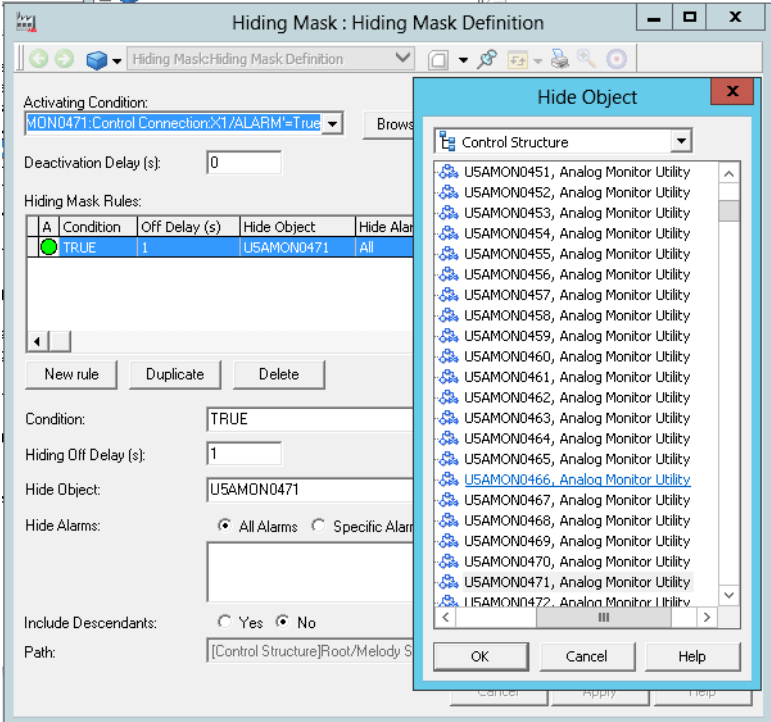

Figure 54. Hide Object Dialog Box
13. Select the object to be hidden and click **OK**, refer to Figure 54.